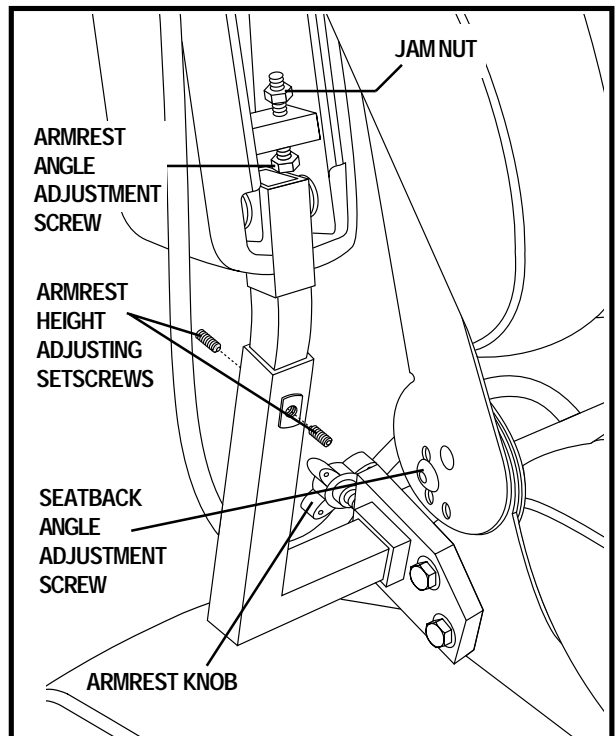

Figure 23. Seatback/Armrest Adjustment
1. Remove the seatback angle adjustment screws from both seat hinges. See figure 23.
1. Locate the two armrest knobs on each side of the armrest receiver bracket. See figure 23.
1. Loosen the two setscrews located on the armrest receiver. See figure 23.
2. Loosen the jam nut. See figure 23.